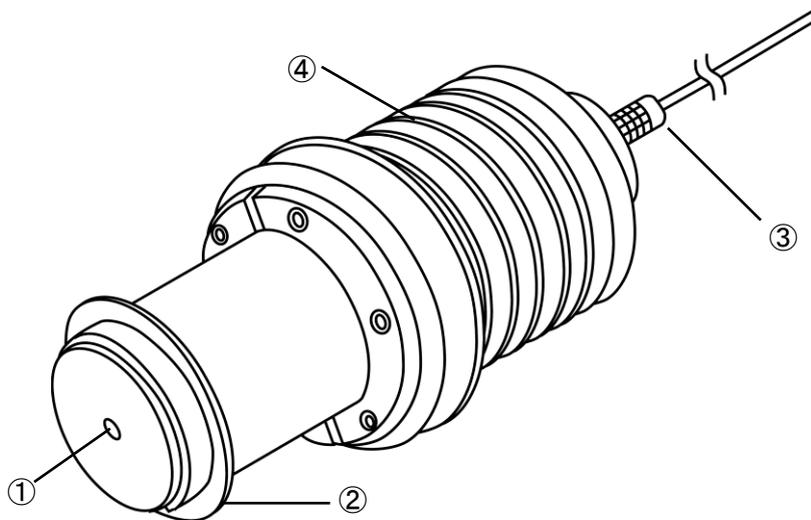
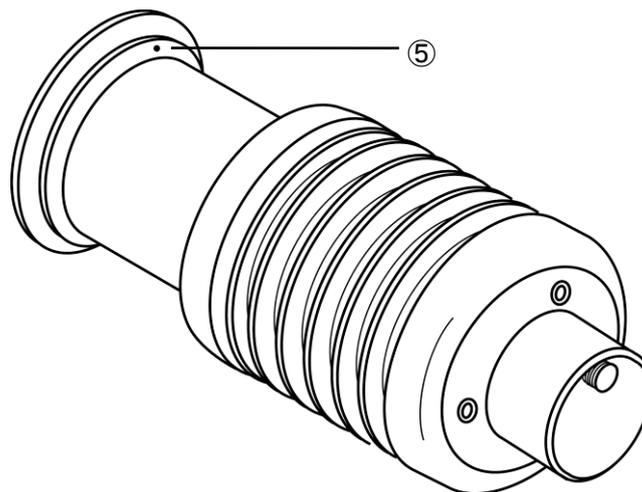

Fig. 4-1
Fig. 4-2
### (1) Detection Section (Fig. 4-1 and Fig. 4-2)
① Prism